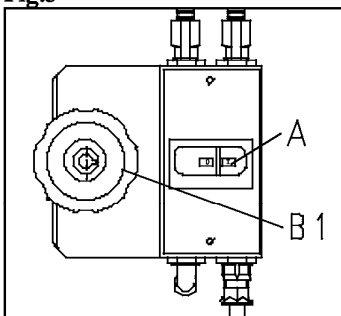

Fig.6
- * Press the button **O** at the main switch or turn to **OFF** position **Fig. 6**